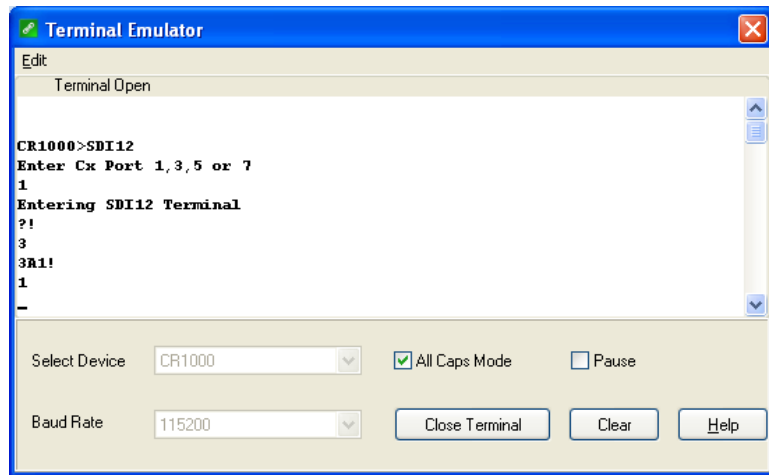

FIGURE D-2. CR1000 example of using the SDI-12 transparent mode to change the SDI-12 address from 3 to 1. Sensor is connected to control port 1.
- To change the SDI-12 address, key in **aAb!** <enter>, where *a* is the current address from the above step and *b* is the new address (see FIGURE D-2). The C470/CS471 will change its address and the datalogger will respond with the new address. To exit SDI-12 transparent mode, select the **Close Terminal** button.